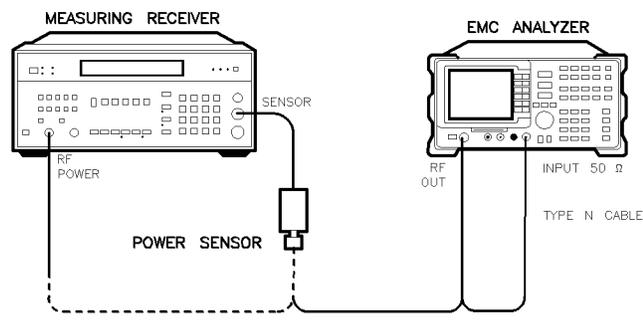

Figure 2-76. Tracking Generator Level Flatness Test Setup, HP 8591EM
1. Connect the Type N cable between the RF OUT 50 Ω and INPUT 50 Ω connectors on the EMC analyzer. See Figure 2-76.
3. On the EMC analyzer, press **MKR**, **AUX/USER**, **Track Gen**, **SRC PWR ON OFF** (ON), and enter 102 **dB μ V**.